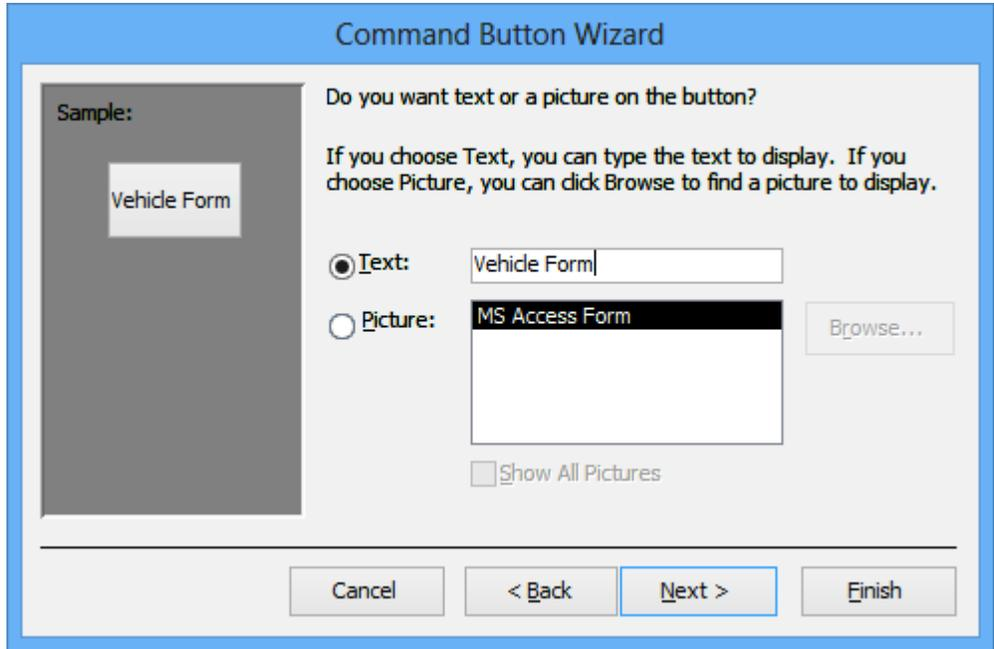

Figure 23: Command Button Text Entry
13. Command Button Format: You are asked if you want text or a picture to appear on the button. Select “Text” and type “Vehicle Form” (Figure 23). Click the **Next** button to continue.